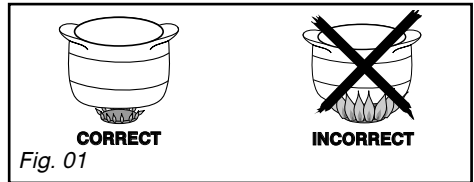

Fig. 01
– Adjust the ring of flames so that it does not extend beyond the edge of the pan (Fig. 01).